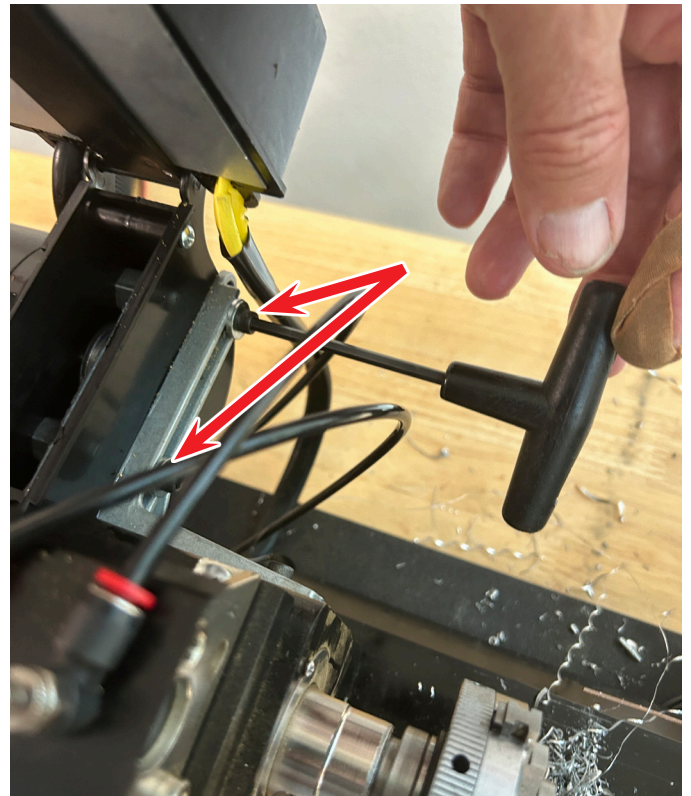

FIGURE 6—The red arrows show the locations of the two bracket adjustment screws.
E. Loosen the two motor bracket adjustment screws (see Figure 6).